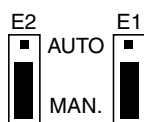

FIG. 3 Manual mode settings
- For manual mode (FIG. 3), place the 2-pin jumper on the E1 connector pin's 2 and 3. Repeat for the E2 connector.